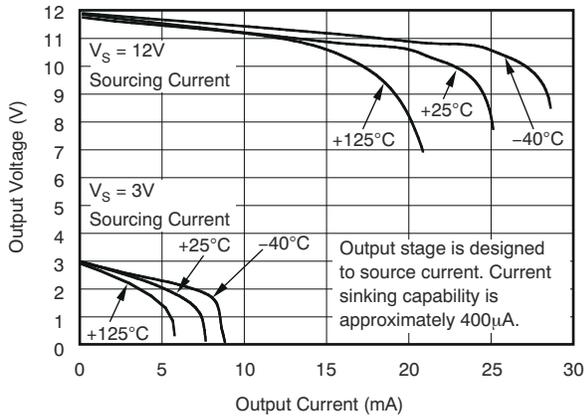

图 6-8. Positive Output Voltage Swing vs. Output Current
- See Typical Characteristic curve *Positive Output Voltage Swing vs. Output Current* (图 6-8).